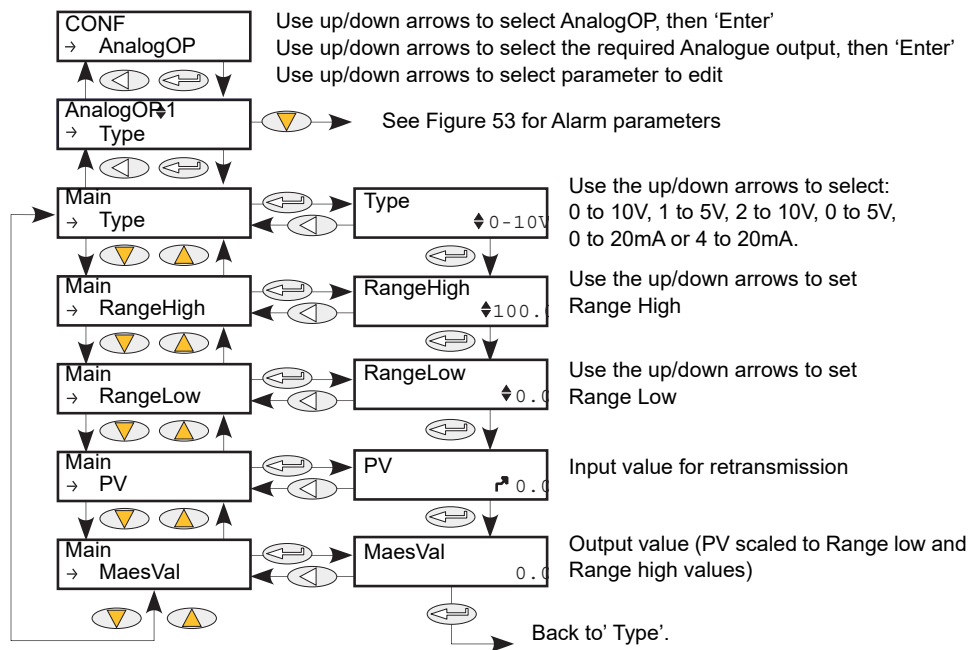
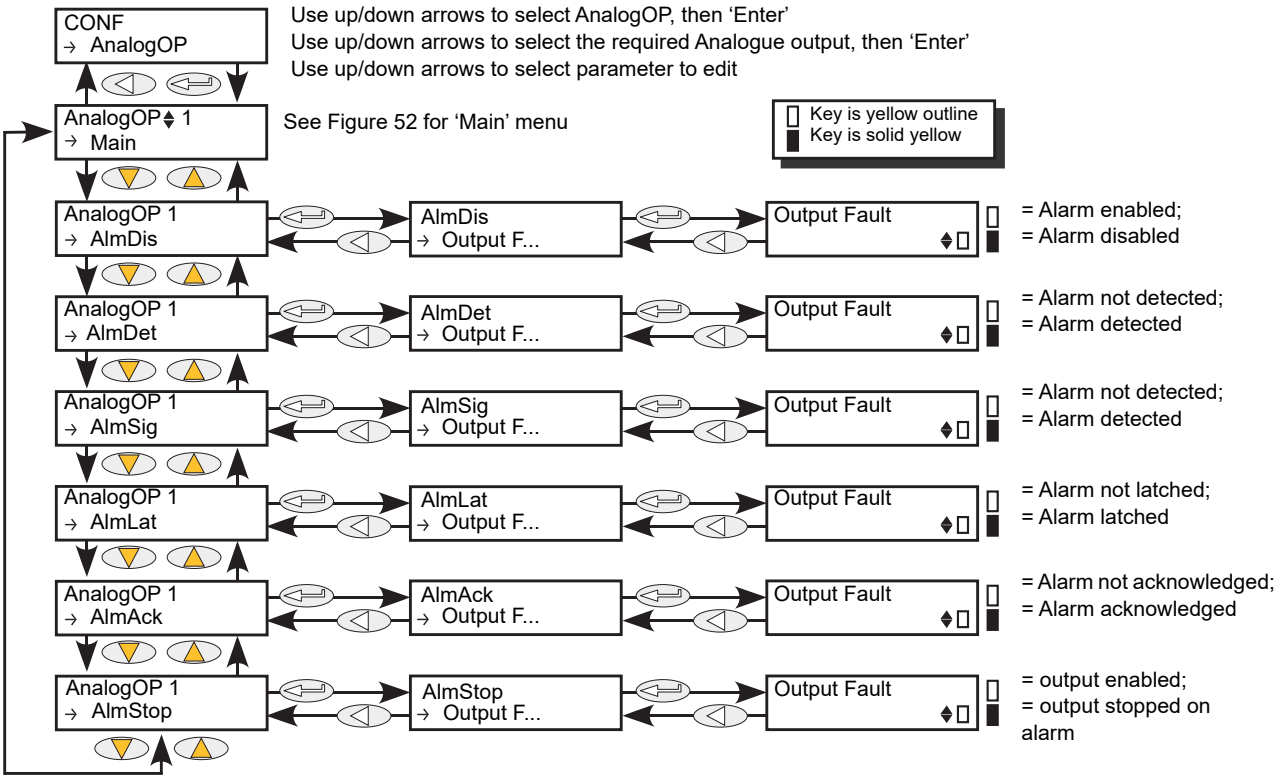

Figure 52 Analogue Output ‘Main’ Menu
Figure 53 Analogue Output Alarm Parameter Access
This provides a current or voltage output scaled from a Process Variable (PV) using Range High and Range Low. Figure 52 shows the 'Main' configuration submenu; Figure 53 shows the alarm parameters.